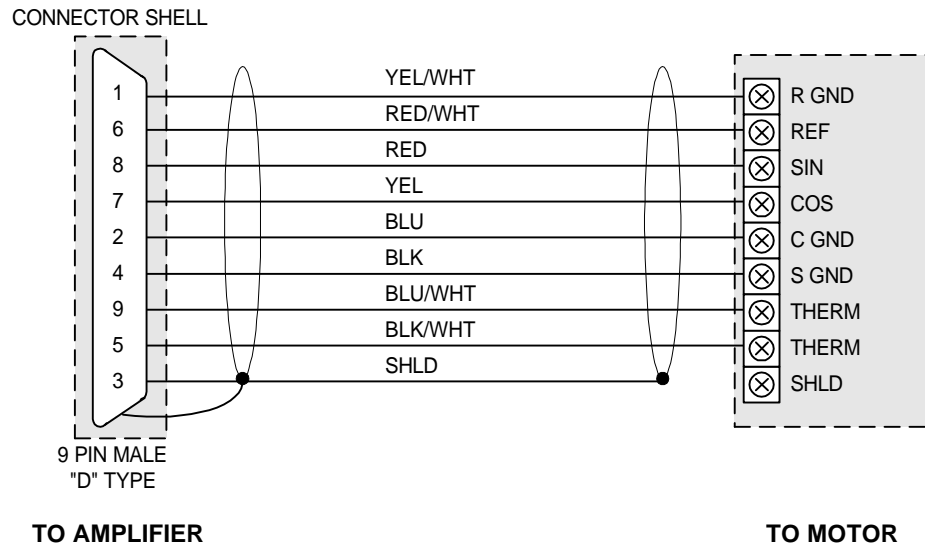

Figure 104 Resolver Wiring Diagram.
- (a) Check motor resolver cable. Check continuity conformance to the cable diagram in Figure 104, “Resolver Wiring Diagram.,” on page 139 to ensure no shorts or opens. Flex cable at both ends to check for intermittent operation.